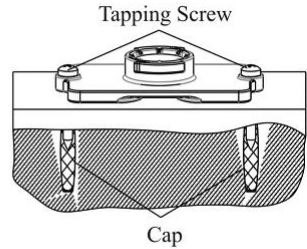

Figure 6
c. According to direction on Figure 6, use the tapping screw in accessory bag to fix the base, then screw into the expansion cap.